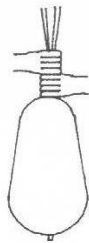

FIG 1
1. GRASP FILLED BAG WITH BOTH HANDS; ONE JUST ABOVE PRODUCT, AND SECOND JUST ABOVE FIRST. SLIP TOP HAND UPWARD —STRIPPING AIR OUT OF BAG TAIL. SEE FIG 1&2.